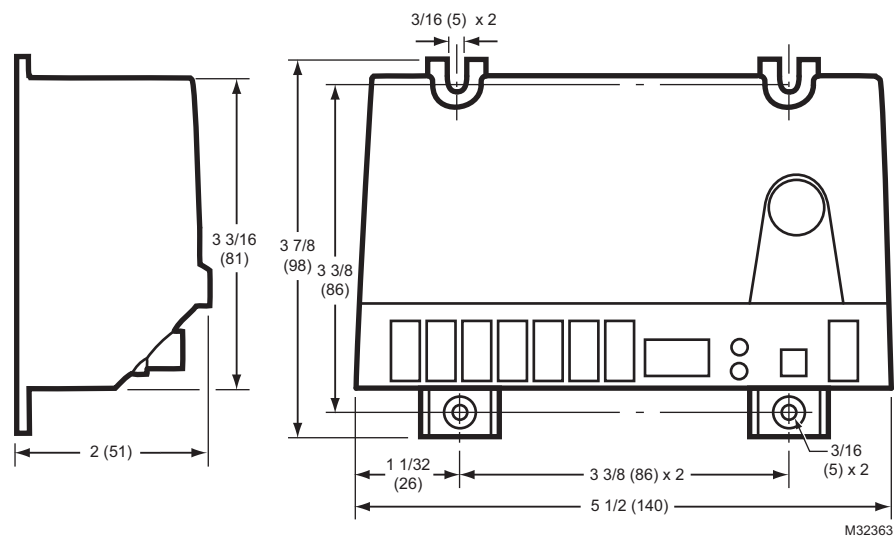

Fig. 2. S8610U module dimensions in inches (mm).
**Dimensions:** See Fig. 2 on page 4.